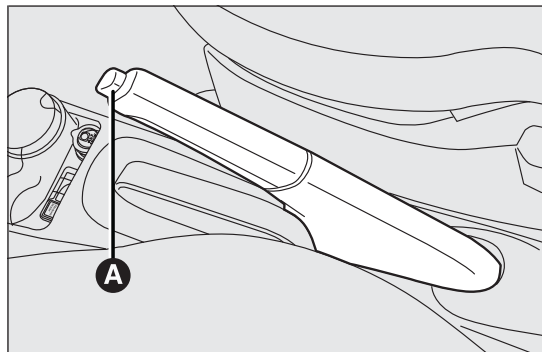

fig. 93
The handbrake is located fig. 93 between the two front seats.
- ☐ slightly lift the handbrake and press release button A fig. 93;